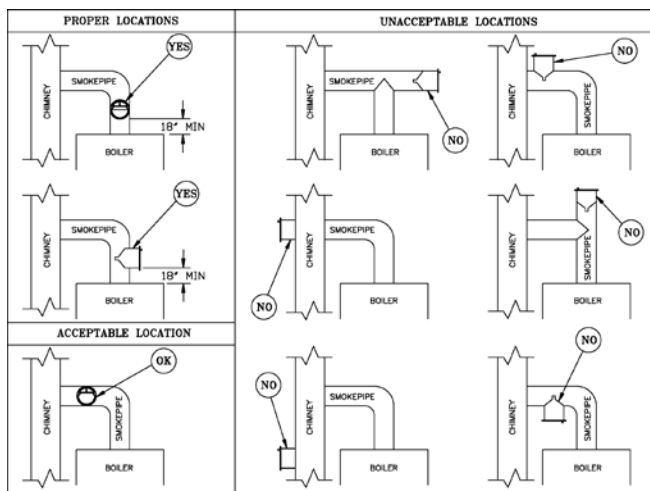

Figure 8
- A. Install the draft regulator following the instructions furnished with the regulator. See Figure 8 for alternate draft regulator locations.